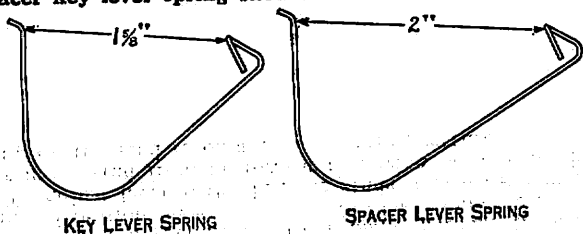

Fig. 2
3.03 The opening between ends of all key lever springs† excepting spacer key lever spring shall measure 1-5/8". The spacer key lever spring should measure 2". See Fig. 2.